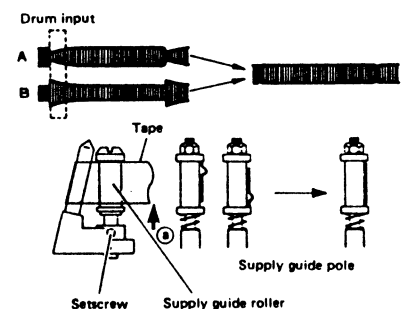

Fig. 2-41 Drum input adjustment
4. Refer to Fig. 2-41. Examples of incorrect waveforms are shown by A and B. Adjust the supply guide roller so that the rising portion (drum input portion) of the waveform becomes flat as shown by C.
5. Observe the top edge of the tape travels along the lower face of the upper flange and check the waveform does not fluctuation as the tape is lightly pushed up at point (a) as shown in Fig. 2-41.